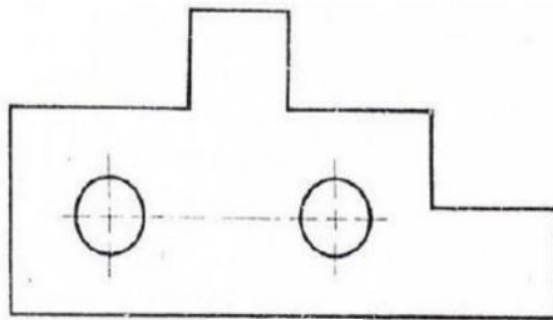

Fig. 7
- Copy Fig. 7 to 1:1 scale and dimension it using Aligned system with Progressive dimensioning method